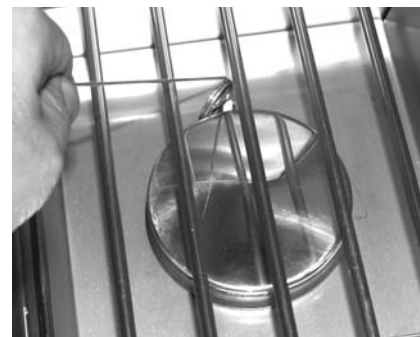

Fig. 9-2 - Manual lighting
2. Insert either a burning long-barrel butane lighter, a burning long-stem match, or a burning match held by a wire extension holder through the cooking grid opening to the burner (Fig. 9-2). Hold the flame against the edge of the burner.
4. If the burner does not light, **immediately depress the knob and turn the valve to OFF**. **WAIT FIVE (5) MINUTES** before repeating steps 2 through 4 of the **MANUAL LIGHTING** instructions.